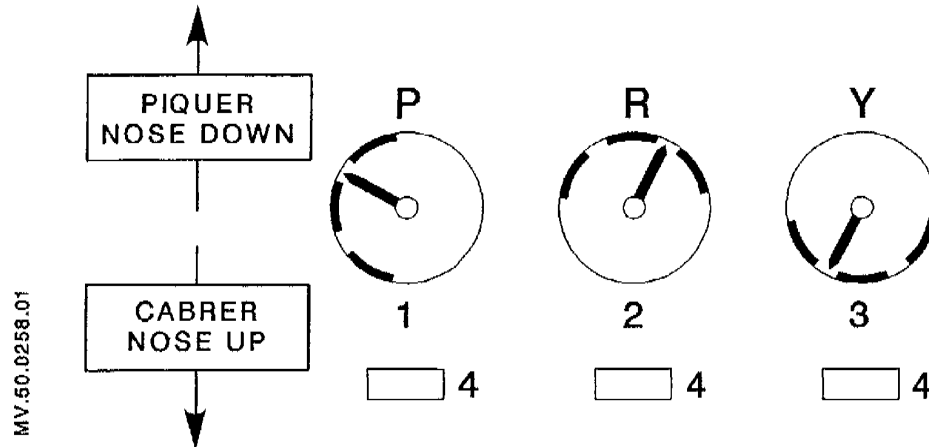

Figure 2
1.4 Instrument panel galvanometers (Figure 2)